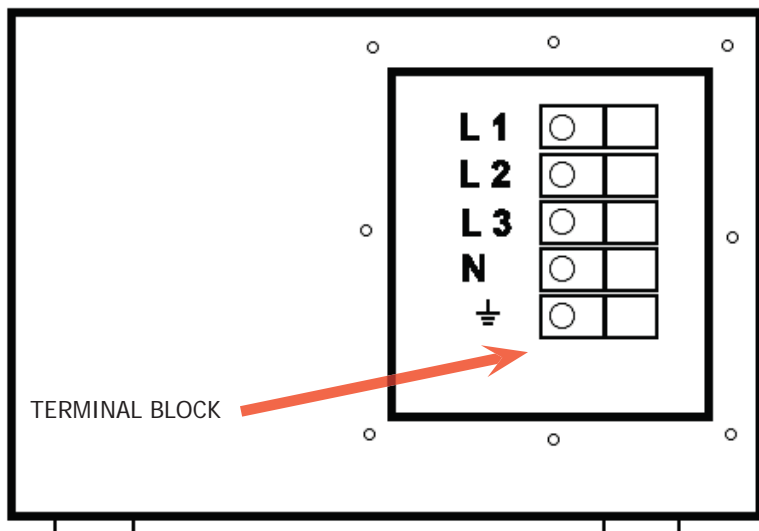

Figure 4a
1. Remove the input power access panel, located on the right side of the mainframe by removing the 8 phillips head screws. (Fig 4a)
4. Strip wires and insert into the terminal block and tighten screws securely. (Fig 4a)